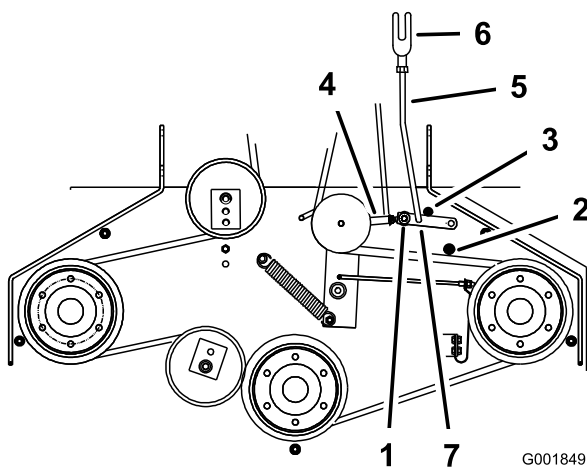

Figure 58
5. Make sure the assist arm is against the rear assist arm stop on the deck (Figure 58).
7. The assist arm should contact the front assist arm stop on the deck. If it does not contact, adjust the bellcrank so it is closer to the gusset (Figure 58).
8. To adjust the assist arm link, remove the hairpin cotter pin from the assist arm (Figure 58).
11. Install the assist arm link into the assist arm and secure it with the hairpin cotter pin (Figure 58).